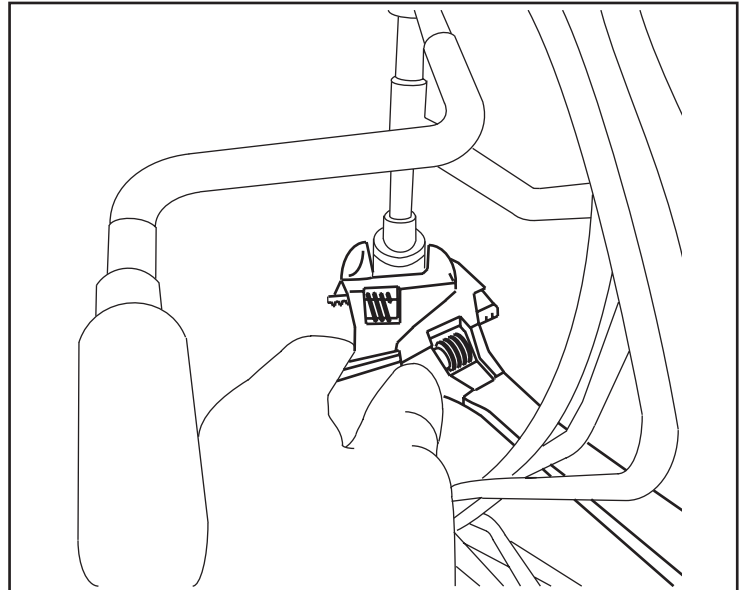

Figure 8 – Remove Sensors and EEV
- Carefully cut the wire ties and remove the insulation around the evaporator temperature sensor (ET) and gas temperature sensor (GT). Unclip the sensors from the coil and keep both sensors. Discard the insulation.
- Using two adjustable wrenches, loosen and remove the EEV flow control assembly at the mechanical fitting as shown in Figure 8. Keep this assembly.